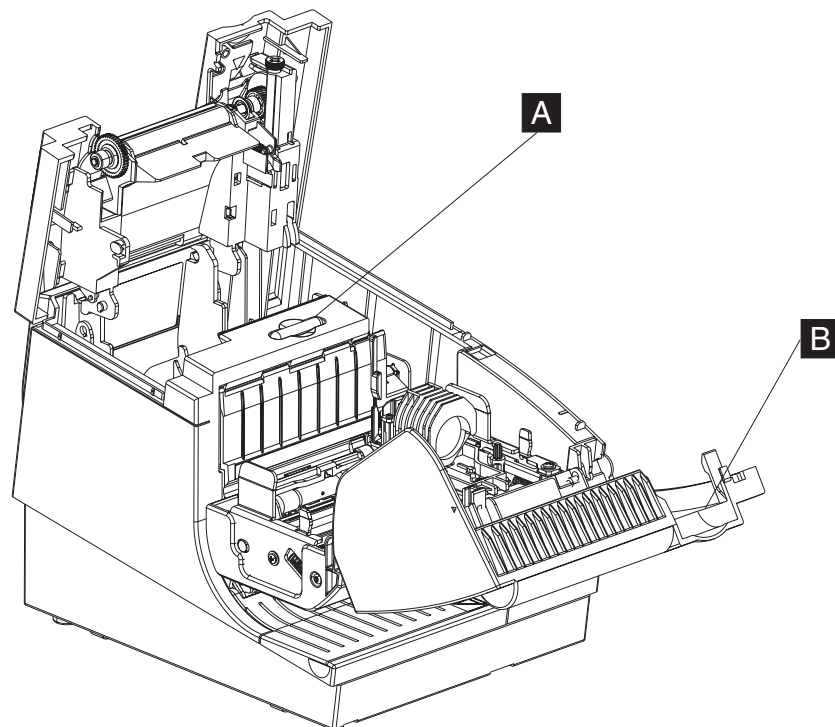

Figure 26. Opening the paper door and ribbon door
2. Open the paper door by pressing the blue release button (**A** in Figure 26).
3. Open the ribbon door (**B**) by pulling downward, as shown in Figure 26 on page 43).
5. Close the ribbon door (**B**) by pushing forward until it clicks into position, as shown in Figure 26 on page 43).
6. Close the paper door (see **A** in Figure 26 on page 43).
1. Open the paper door by pressing the blue release button (see Figure 26 on page 43).